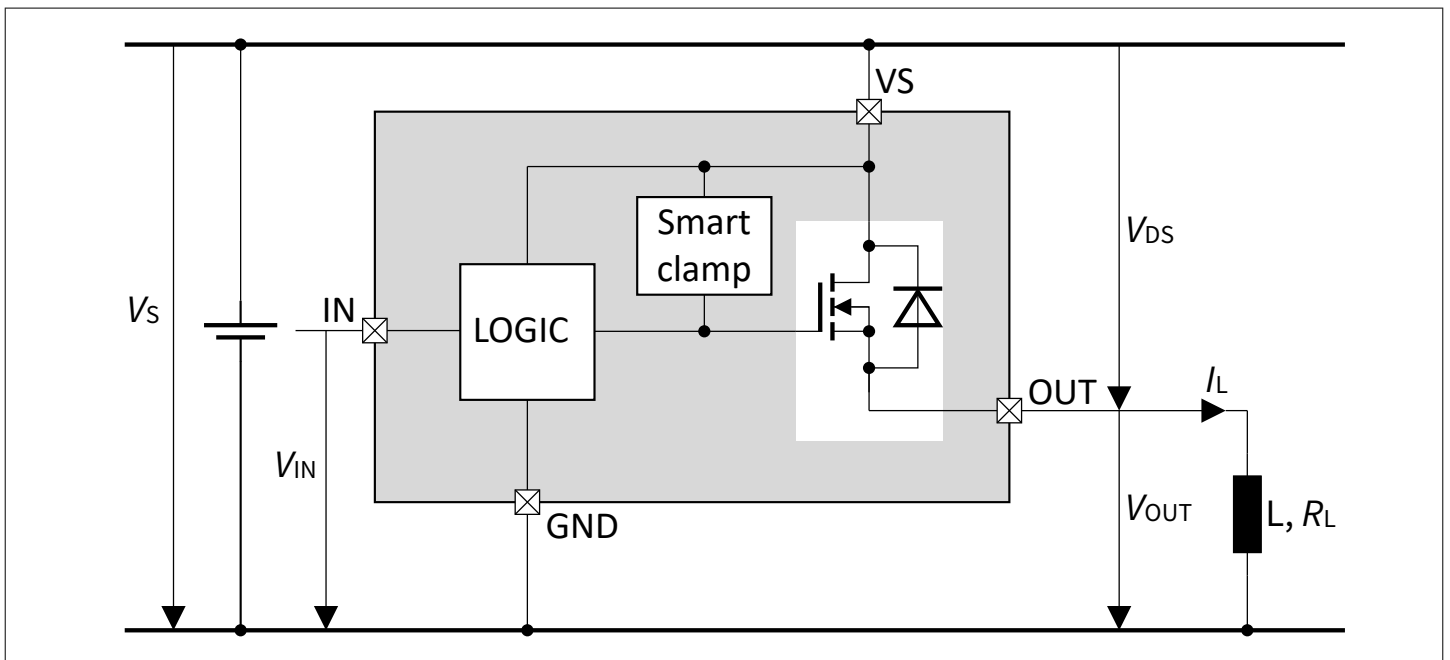
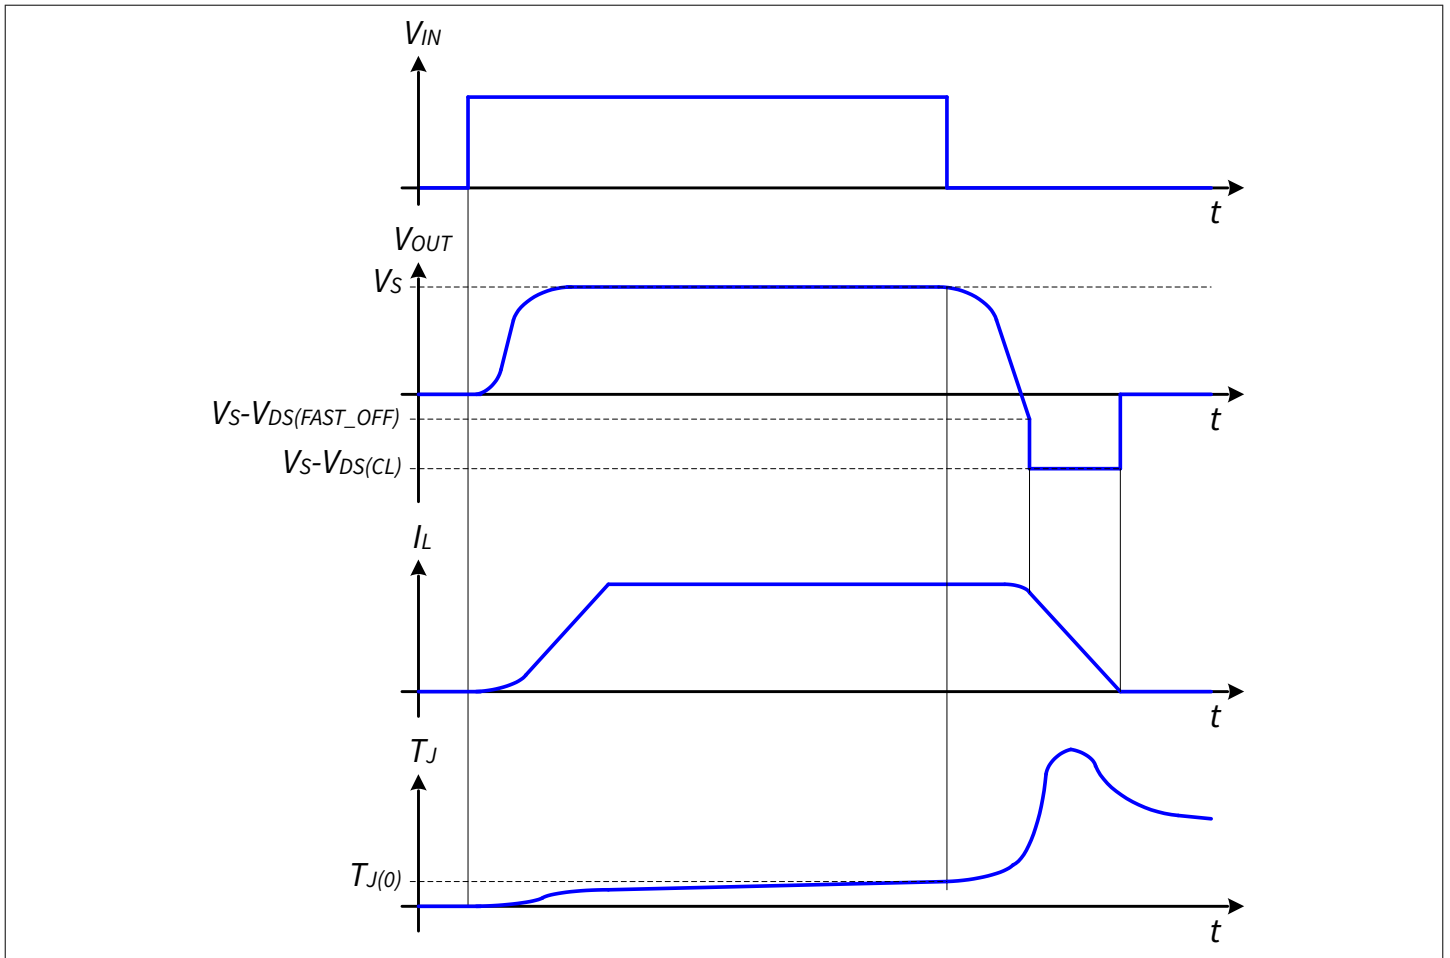

Figure 10 Output clamp
Figure 11 Switching an inductance
To prevent the destruction of the device due to high voltages, there is a smart clamping mechanism implemented that keeps negative output voltage to a certain level ($V_S - V_{DS(CL)}$). Please refer to Figure 10 and Figure 11 for details. Nevertheless, the maximum allowed load inductance remains limited.
- The device is turned off by applying $V_{IN(L)}$ at the IN pin. During the switch off operation the OUT pins' voltage in respect to VS pin drops below $V_{DS(FAST_OFF)}$. See Figure 11.